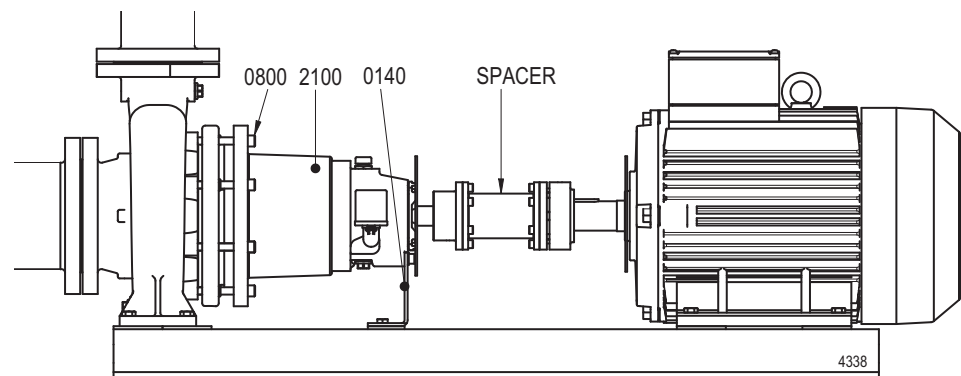

Figure 9: Back-Pull-Out principle.
- 3 Loosen the bracket support (0140) from the base plate, see figure 9.
- 6 Remove the coupling half from the pump shaft and remove the coupling key (2210).
- 5 Fit the coupling key (2210) and fit the coupling half onto the pump shaft.